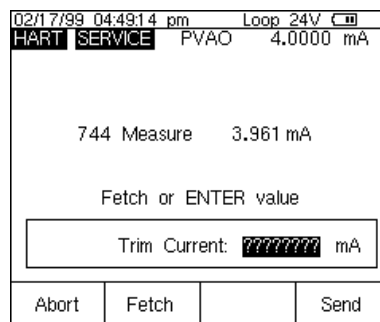

Figure 23
5. Press the **Adjust** softkey, select **Output Trim** and press **ENTER**. The value of the primary variable (PVAO) is in the upper right corner of the display (Figure 23). This is normally a 4 mA signal. The real-time mA value as measured by the Fluke 744, is in the center of the display. Press the **Fetch** softkey to load the measured mA value. Press the **Send** softkey to send the value to the transmitter to trim the output section for the 4 mA value. Press **Continue** for the 20 mA adjustment and repeat this step.